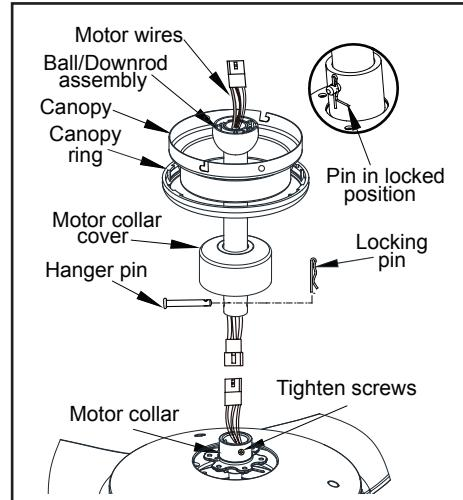

Figure 10
4. Place downrod over canopy and canopy ring ,slide the motor collar cover onto the downrod. Connect the extension lead wires to the lead wires from motor. Make sure the quick connectors are clasped firmly. Route the wires through the ball/down rod assembly. (Figure 10)
6. Align the holes at the bottom of the downrod with the holes in the collar on top of the motor housing. (Figure 10) Carefully insert the hanger pin through the holes in the collar and downrod. Be careful not to jam the hanger pin against the wiring inside the downrod. Insert the locking pin through the hole near the end of the bolt until it snaps into its locked position, as noted in the circle inset of Figure 10.